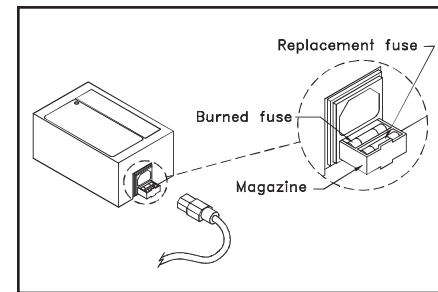

Figure 10
3. If the light still doesn't work, plug the charger into a different outlet in a different area to ensure that the outlet is working properly. Pull the power cord out of the charger. Under the socket for the power cord, there is a drawer or magazine where there are fuses. Using a pen or screwdriver, pull the drawer out gently. Pull the burned fuse out of the drawer that is next to the charger (Figure 10) and discard. Take the replacement fuse and place it in the same slot where the burned fuse was. Slide the drawer back into the charger. Plug the power cord into the charger. Place the battery into the charger and check for the light.